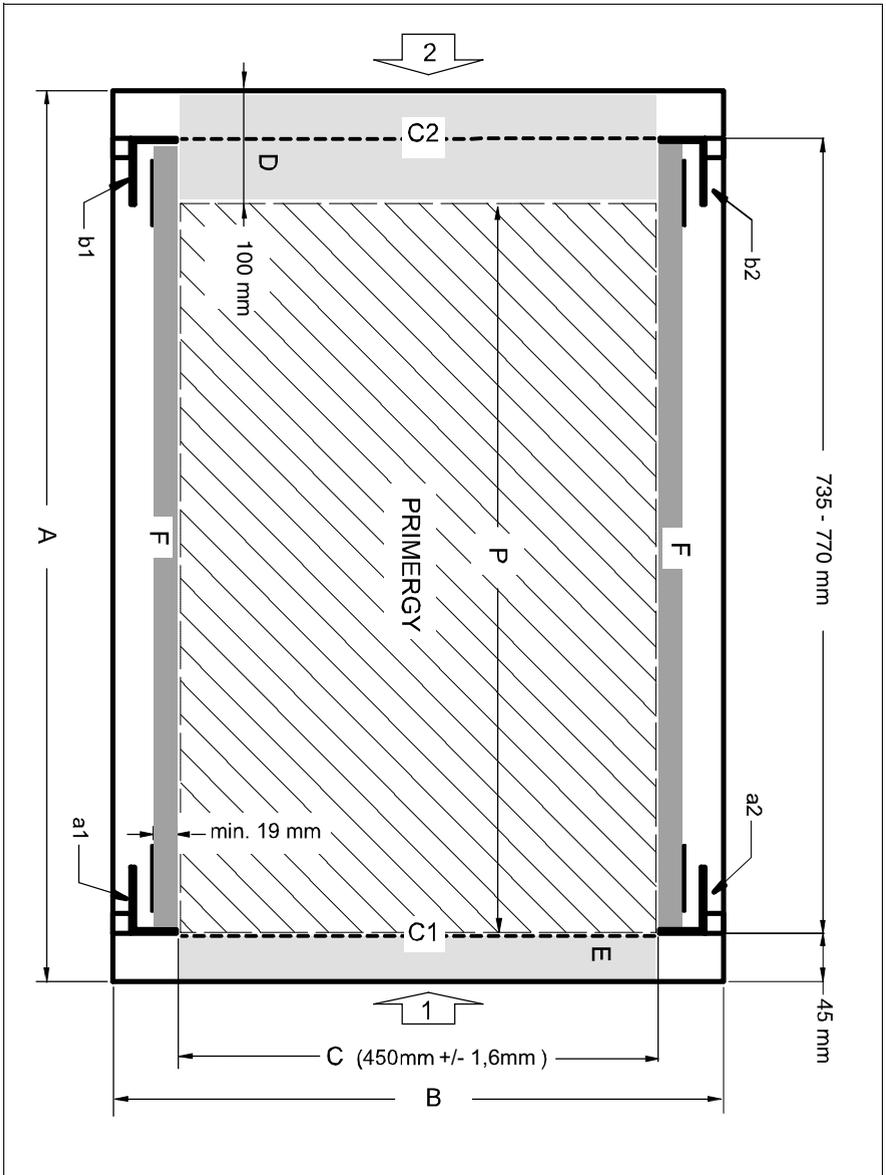

Figure 2: Mechanical requirements
- Installation dimensions (see the dimensions shown in figure 2 on page 45):